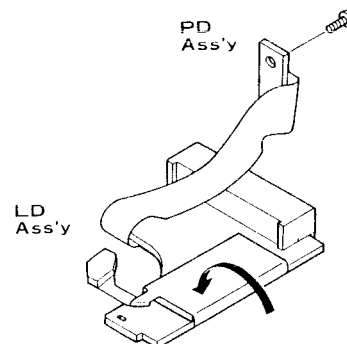

Fig. 1
- 1 Bend the board as indicated by the arrow in Fig. 1, and affix using dual-sided adhesive tape or adhesive.
- 2 Mount the HEAD into the pick-up with the flexible section bent back as shown in Fig. 1.